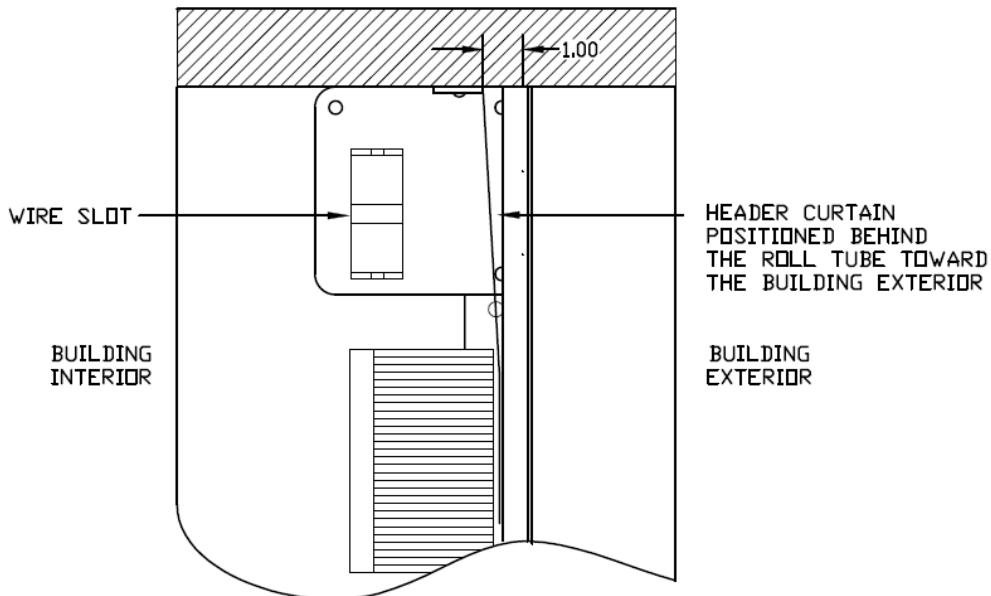

FIGURE 4
STEP 6. Measure 1" in from the back of the guide toward the interior. Mark the top of the jamb. Mount the header curtain in the header with the aluminum clamping strip at that location, such that, it just makes contact with the roll when the screen is in the closed position. The Gateway Logo will face the building exterior and the hang in the track and over the roll (**See Fig. 4**).